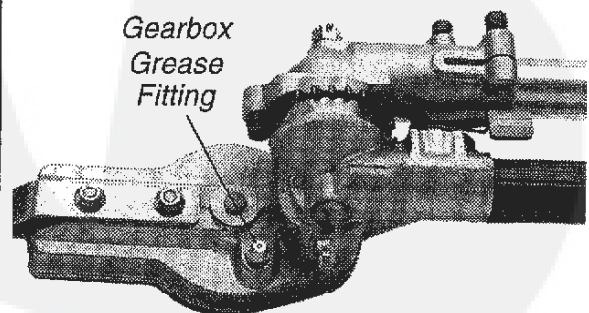

**Figure 31**
- Remove and clean the spark plug. See Figure 31. Adjust the spark plug electrode gap to 0.024-inch (0.6 mm). If the plug must be replaced, use only: